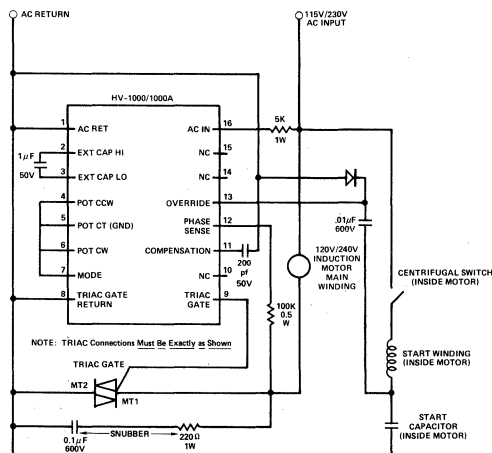

Figure 9.
- a) If a motor is driving a light load, so the time constant capacitor is fully charged, and switched off momentarily while a full load is applied; then, when the motor is switched on again, the HV-1000 may "soft start" for a fraction of a second. This tendency can be minimized by using a larger time constant capacitor and by increasing the load anticipator sensitivity with an external potentiometer or resistor. If the behavior is frequent and totally unacceptable, a complete fix is to use the application circuit for electronic override shown in Figure 9. Here the 100kohm resistor which sends the line voltage to pin 13 is replaced by 0.01 μ F to the start capacitor of the motor. Thus all the time the starter winding is operating, the HV-1000 is commanded to full voltage, guaranteeing a full power start. Since the start capacitor terminals may be inside the motor, this circuit is best suited for motor manufacturers.